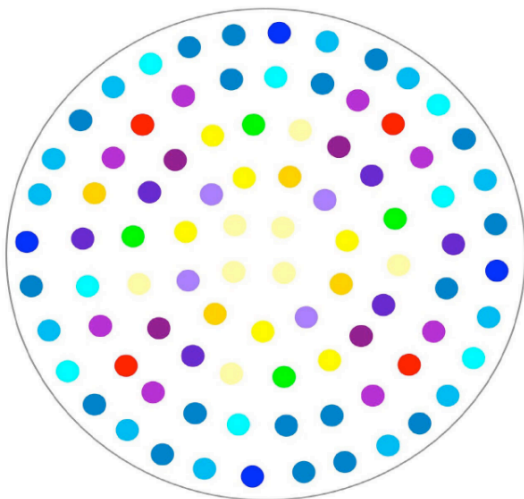

Fig. 1 LED ratio map
* The ratio seen in fig.1 is only used as 1 example of the LED ratio offered by Orphek, not necessarily the one purchased. Customers customizing their own have different ratio maps with different spectrum results!